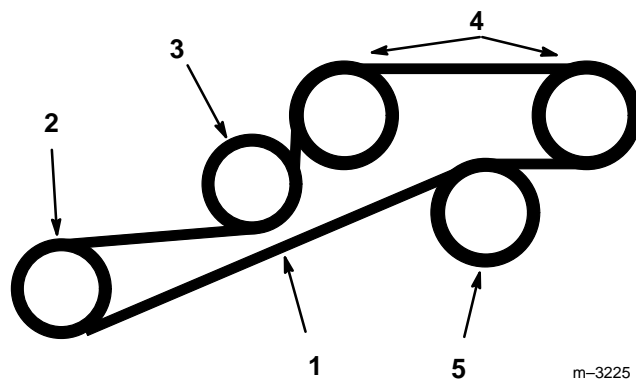

Figure 33
- Push spring loaded idler down and remove traction belt from the engine, fixed idler and hydro pump pulleys (Fig. 33). Remove belt over clutch.
- Install new belt over clutch and around engine, fixed idler and hydro pump pulleys (Fig. 33).
- Push spring loaded idler down and align below traction belt. Release pressure on spring loaded idler (Fig. 33).